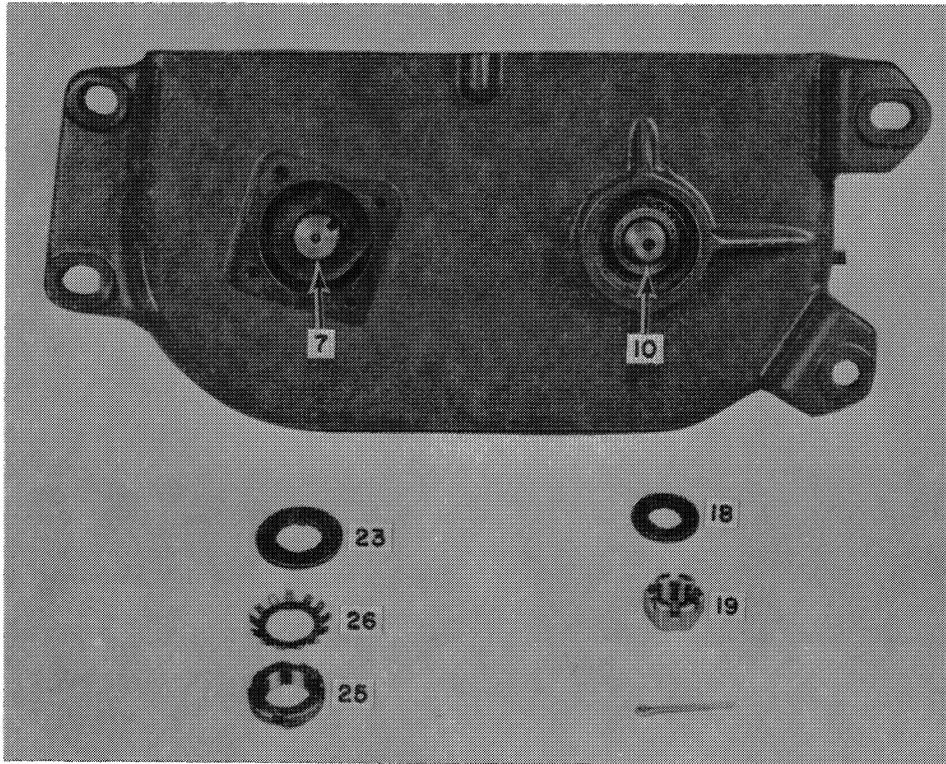

FIGURE 10
6. To remove the output shaft, remove slotted nut and cotter pin (19) and heavy washer (18). See Figure 10. Straighten the bent tab on lock washer (26) and use a punch to remove lock nut (25) before removing the input shaft. To protect the shaft threads, use a plastic mallet to drive out the shafts. The bearings should be a tight fit on the shafts.